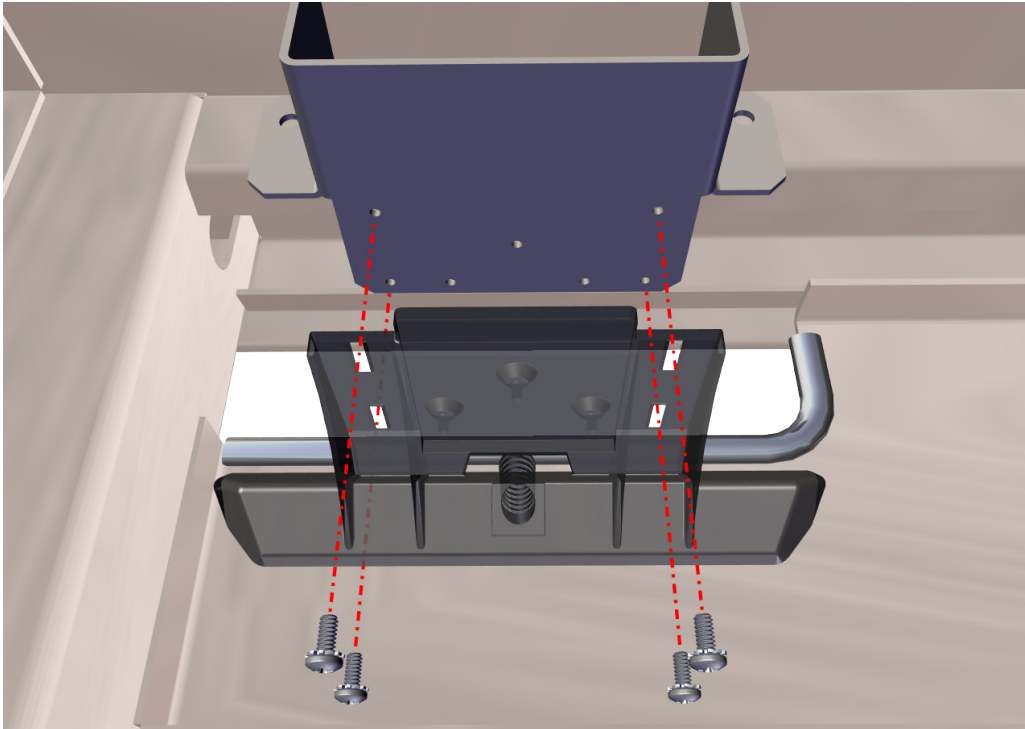

Fig. 4: Remove old Memory Control Pad
2. Remove four 1/4" screws attaching the Controller to the table mounting plate (Fig. 4).